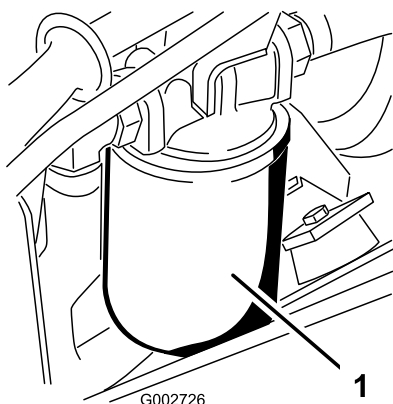

Figure 46
- Place a drain pan under the hydraulic filter, which is located at the left side of the machine (Figure 46).
- Install the new hydraulic filter (Figure 46) by turning it on by hand until the gasket contacts the filter head, then tighten the filter 3/4 turn further.